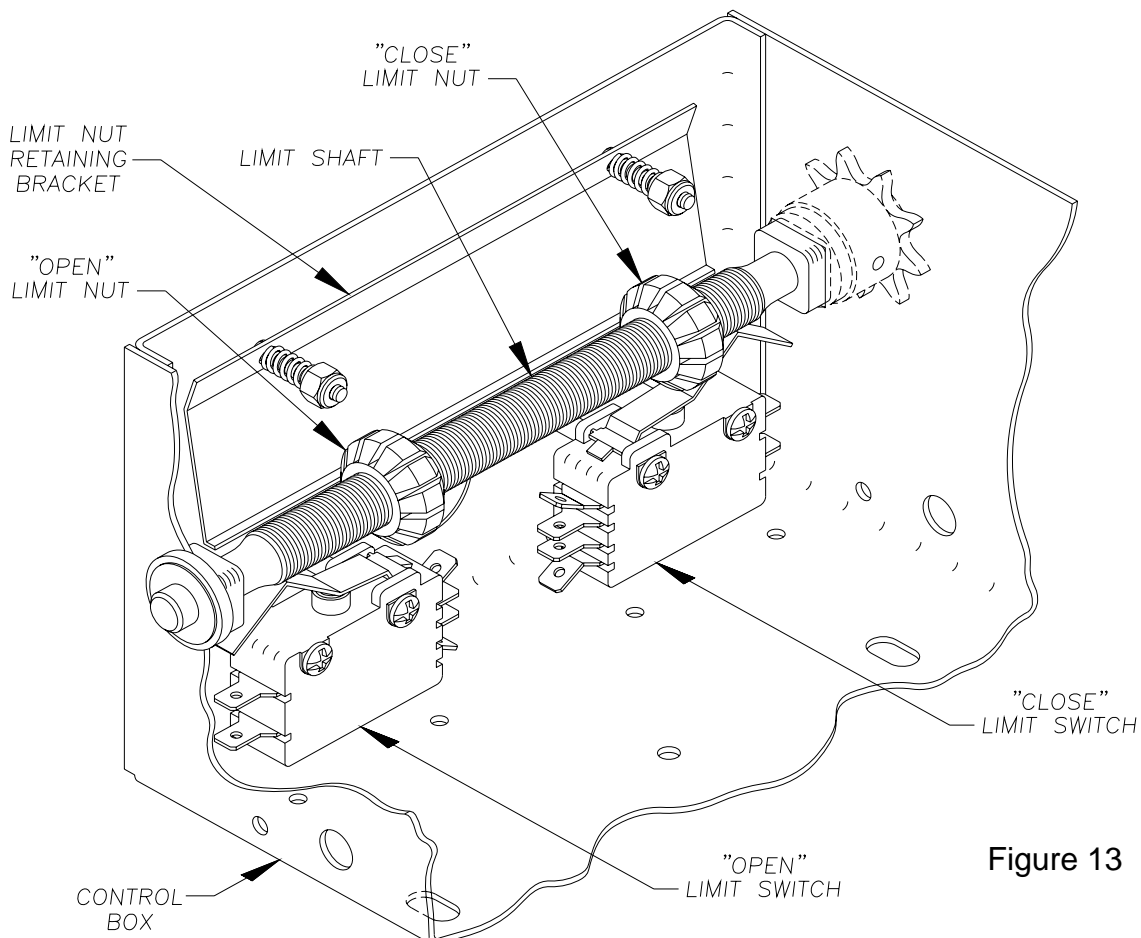

Figure 13
3. Refer to Figure 13. Depress the limit nut retaining bracket away from the slots in the limit nuts. Turn the CLOSE limit nut on the shaft until it engages the CLOSE Limit Switch. The switch will sound an audible “click” when engaged. If there are auxiliary present, the limit switch will be the second “click”. Release the retaining bracket and be sure that it engages in slots of both limit nuts.
Limit nut retaining bracket not engaging notches in nuts.	Set nuts and be sure bracket is in notch on each nut. See Figure 13, page 12.